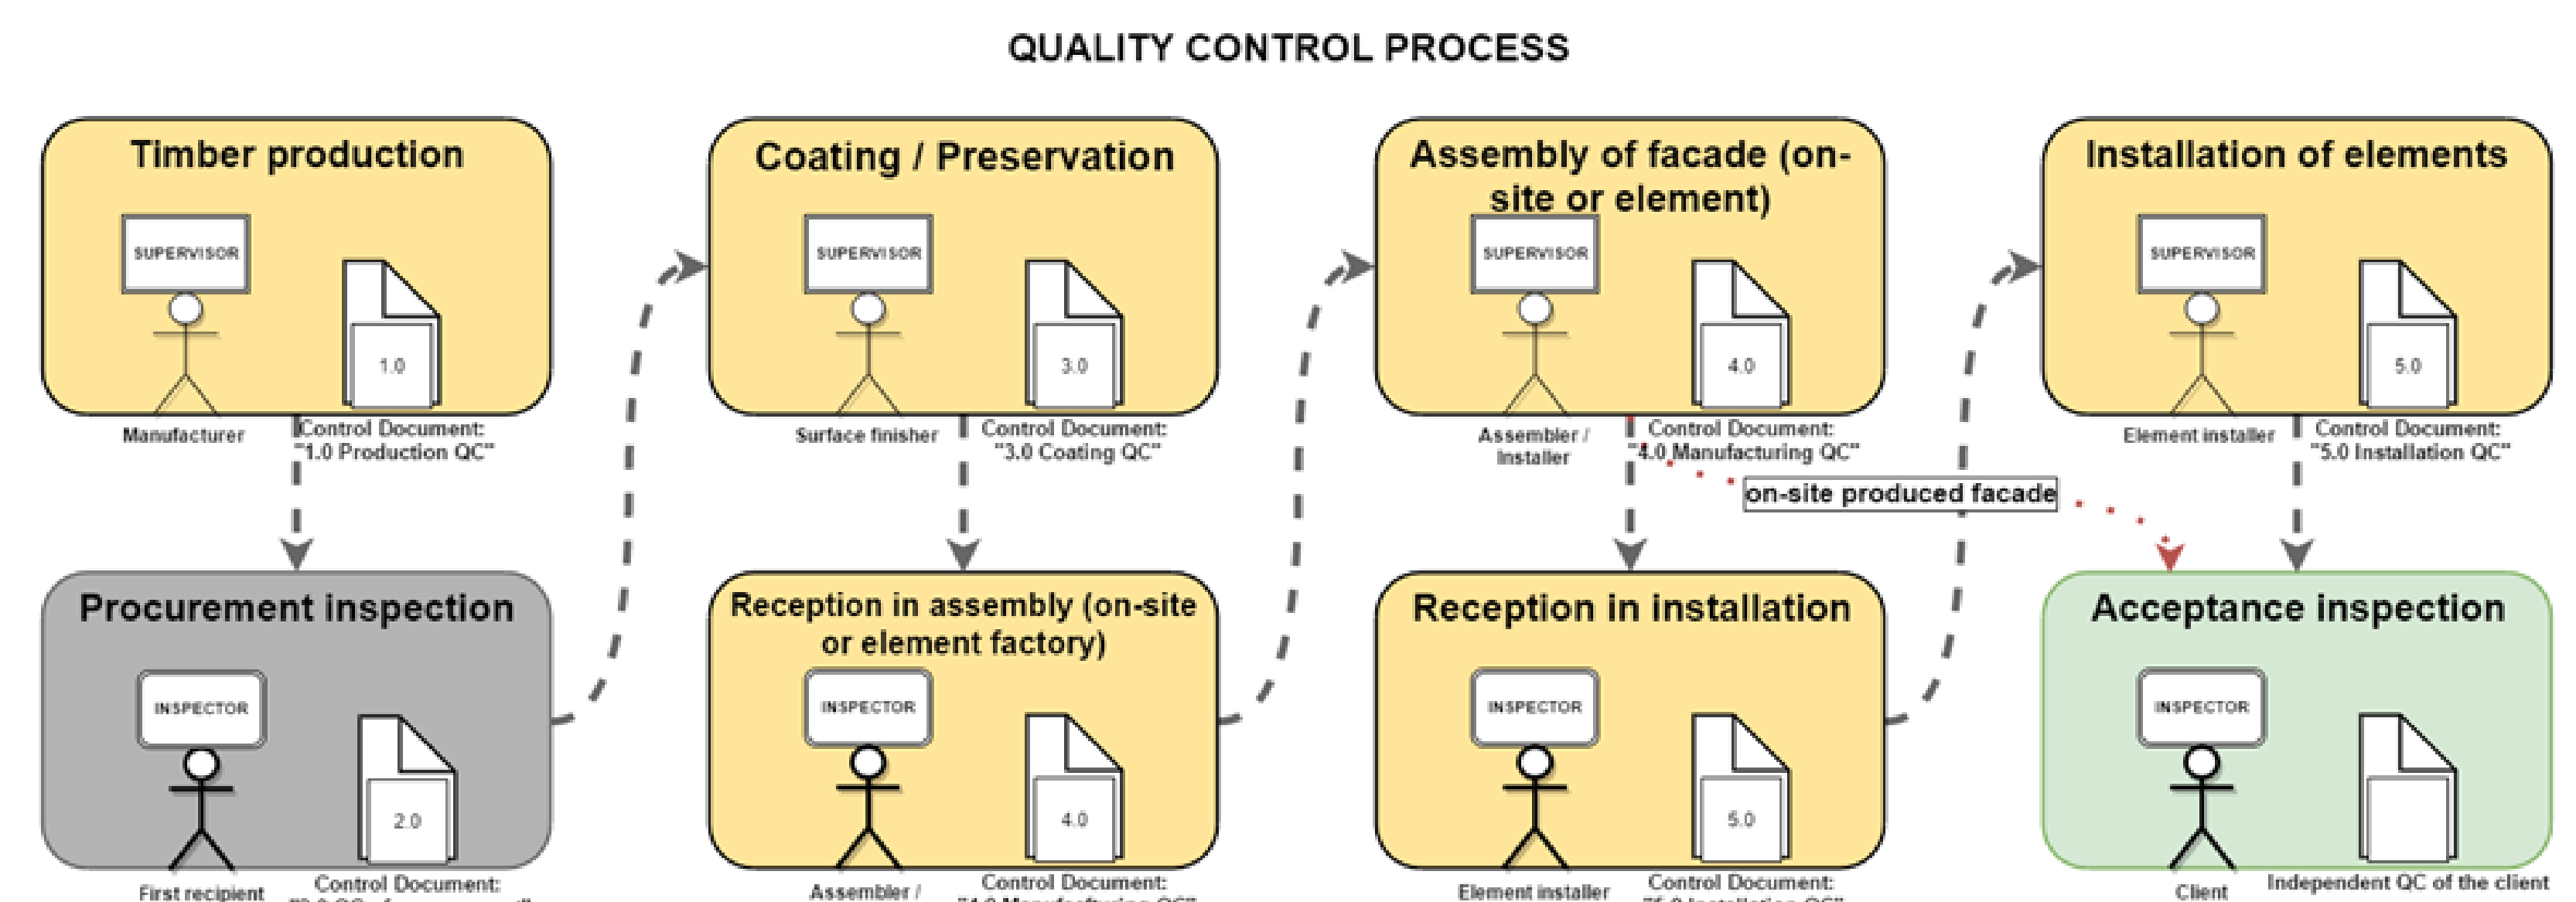

Figure 2. A schematic overview of the quality control process for manufacturing a timber façade.
- Quality control process was developed (Figure 2 and Table 1)